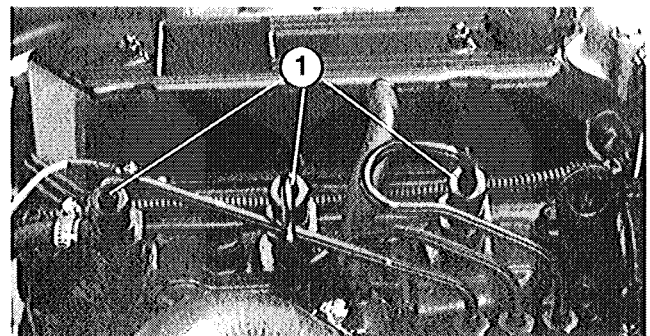

Figure 41
BLEEDING AIR FROM INJECTORS (Fig. 41)
2. Loosen the pipe connection to the No. 1 nozzle and holder assembly (Fig. 41).